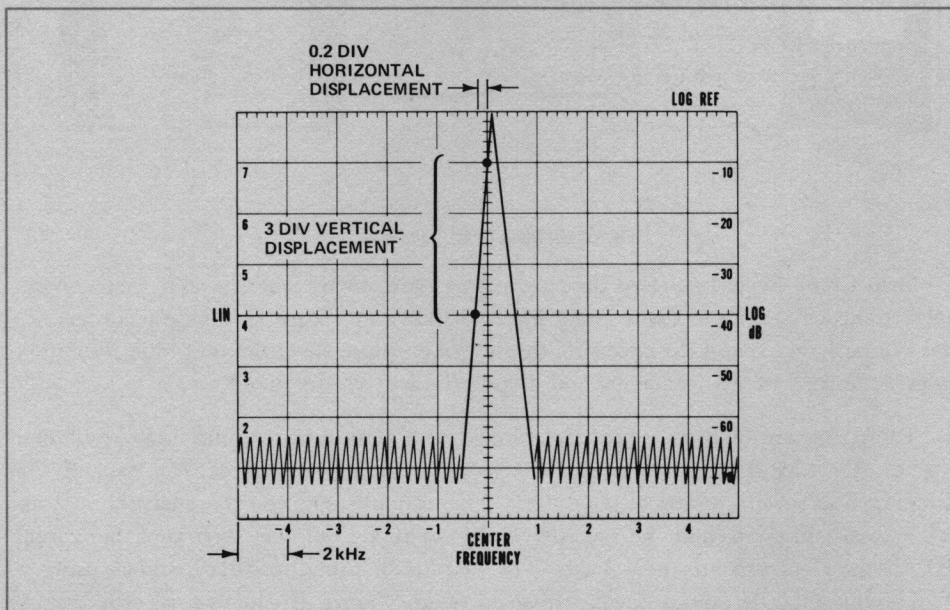

Figure 17. FM to AM Conversion.
2. Adjust the analyzer for linear display and tune so that the upward linear portion of the IF skirt intersects the frequency graticule line 1 division from the top as shown in Figure 17. Note where the skirt intersects the middle horizontal graticule line. From Figure 17 we see that a minor division horizontal displacement equals three major divisions vertical displacement. Since the horizontal displacement equals 400 Hz (0.2×2 kHz), each vertical division = $\frac{400}{3}$ or 133 Hz.